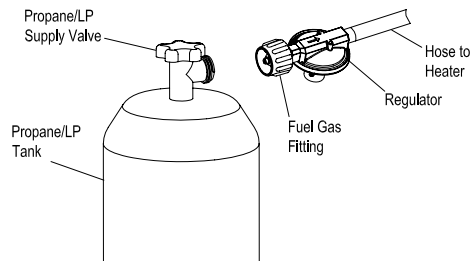

FIGURE 2
- 3b. For units with a QCC fitting (see figure 2) turn QCC gas fitting clockwise onto threads on tank. Tighten firmly using your hand (**DO NOT USE A WRENCH**). **IMPORTANT:** Position regulator so that the regulator vent is pointing down toward the floor and the arrow on the regulator is visible.